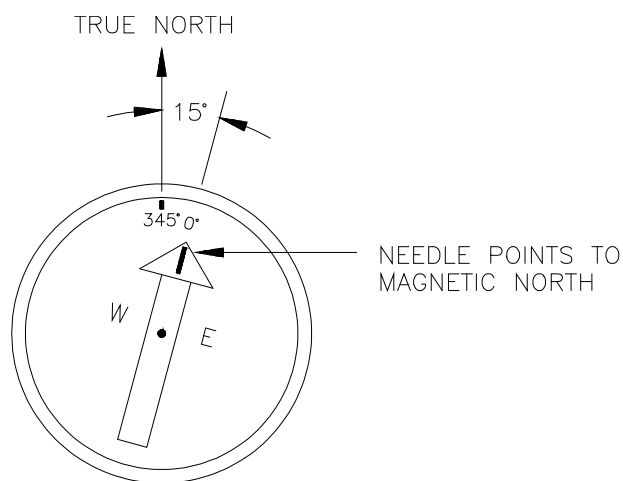

FIGURE A-2. A declination angle East of True North (positive) is subtracted from 360 (0) degrees to find True North
Declination angles are always subtracted from the compass reading to find True North. A declination angle East of True North is reported as positive a value and is subtracted from 360 (0) degrees to find True North as shown in FIGURE A-2. A declination angle West of True North is reported as a negative value and is also subtracted from 0 (360) degrees to find True North as shown in FIGURE A-3. Note that when a negative number is subtracted from a positive number, the resulting arithmetic operation is addition.